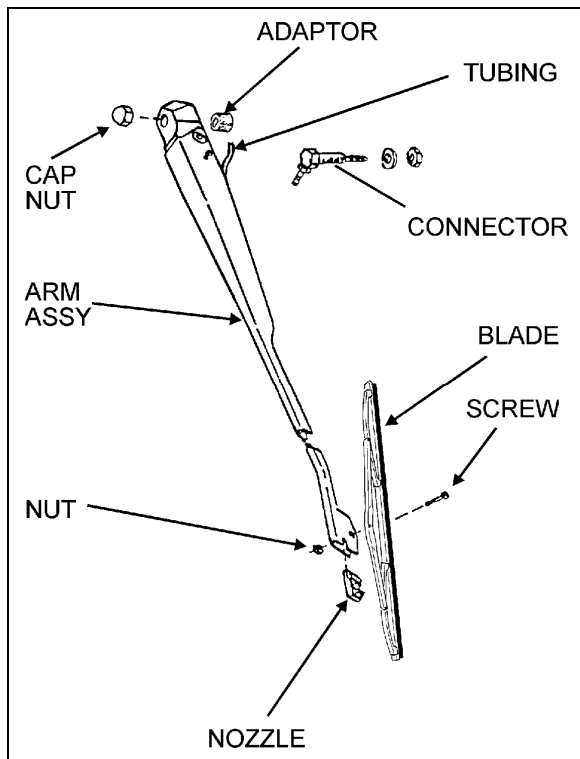

FIGURE 37: UPPER WINDSHIELD WIPER
7. Loosen the bolt retaining the lever at the end of the motor driving shaft (Fig. 37).